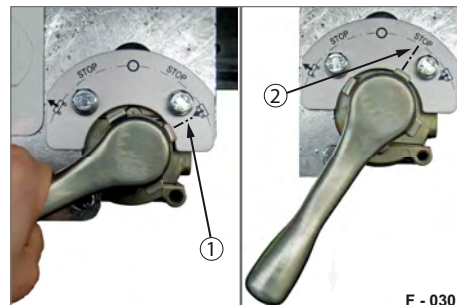

Fig. 27 Lowering the trailer
- ▶ Press the turning lever inwards and turn it clockwise towards the "Lower" icon (Fig. 27/1).
- ▶ When the height has been achieved, turn the turning lever back one stage into the "Stop" position (Fig. 27/2).